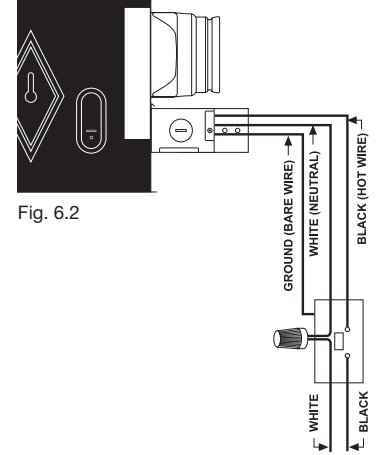

Fig. 6.2
- 4- Using connectors, attach the fan wires located inside the fan wiring compartment to the matching wires coming from the wall switch; black to black (hot); white to white (neutral). (Fig. 6.2)